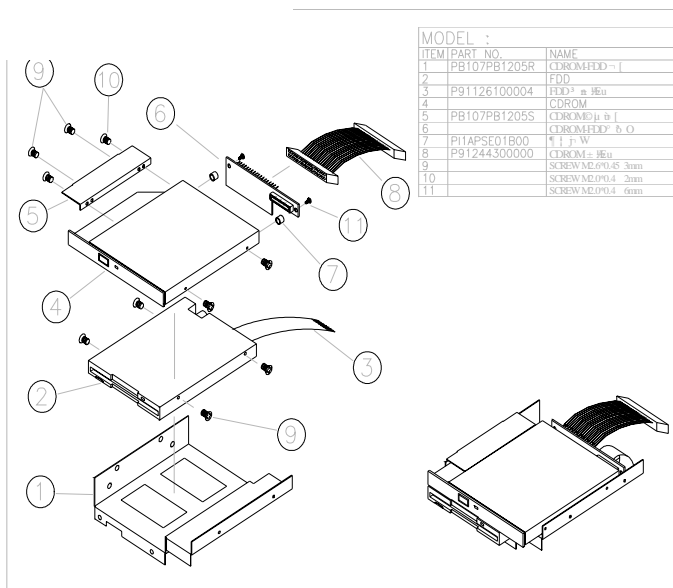

FIGURE 5-12: FDD/CD-ROM INSTALLATION
5. Refer to figure 5-12. If a floppy drive is to be installed, too, fix the FDD (2) with cable (3) to the FDD/CD-ROM metal bracket (1) first.
6. Attach the FDD/CD-ROM board (6) to the slim CD-ROM drive (4). *PLEASE NOTE THAT THE 2 SCREWS NEED TO BE INCASED WITH 2 PLASTIC WASHERS (7).*
7. Fix the small CD-ROM bracket (5) to the CD-ROM drive. This small bracket is to prevent the CD-ROM unit from moving when installed to the FDD/CD-ROM (1).
11. Connect the 44 pin-IDE cable (8) to the 44 pin IDE connector on the FDD/CD-ROM board. Make sure the other end of the cable is connector the motherboard primary IDE connector.